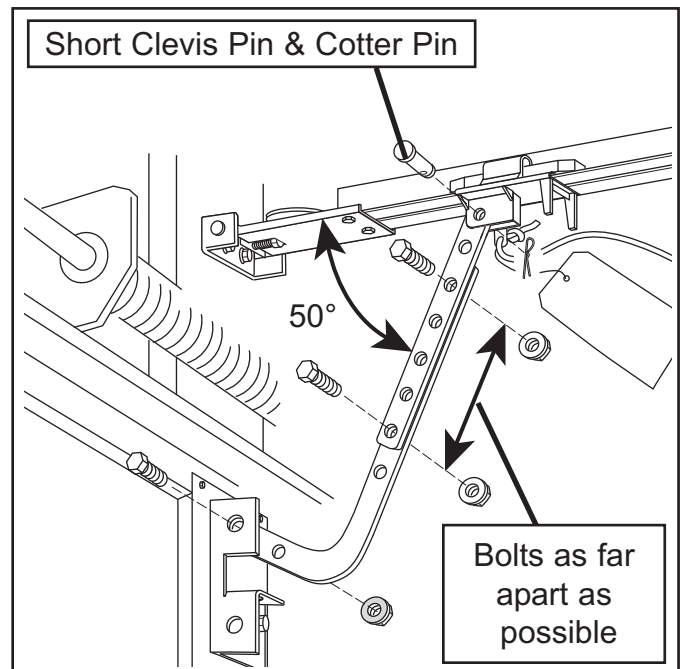

FIG. 2-9 Attaching door arms.
- Fasten short branch of curved door arm to door bracket using bolt and locking nut (Fig. 2-9).
- Fasten straight arm to carriage using a short clevis pin and cotter pin (Fig. 2-9).
- With the arms arranged in this position, fasten arms together using bolts and nuts spaced as far apart as possible (Fig. 2-9).